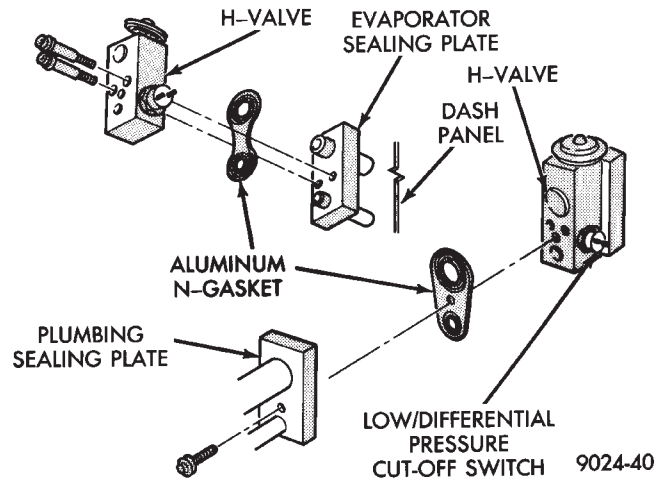

Fig. 20 Expansion Valve
(1) Remove the boot-type wire connector from the pressure cut-off switch.
(2) Remove the attaching bolt in center of refrigerant line-plumbing sealing plate (Fig. 20).